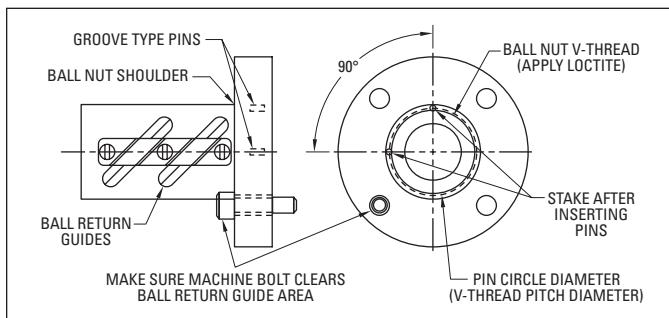

Figure 1
4. Loosen the flange until the required machine bolts can be inserted into the flange mounting holes without interfering with the ball return guides (see Figure 1).
5. Drill two holes approximately 90° apart, as shown in Figure 1.